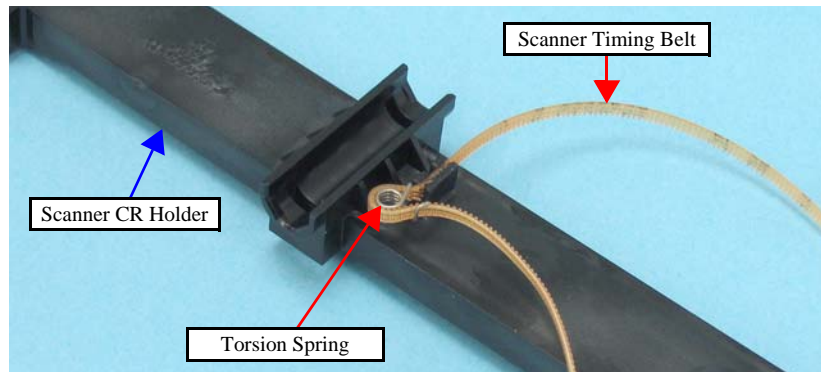

Figure 4-116. Removing the Scanner Timing Belt and Torsion Spring
- When installing the Scanner Timing Belt, attach the Torsion Spring as shown in Figure 4-116.